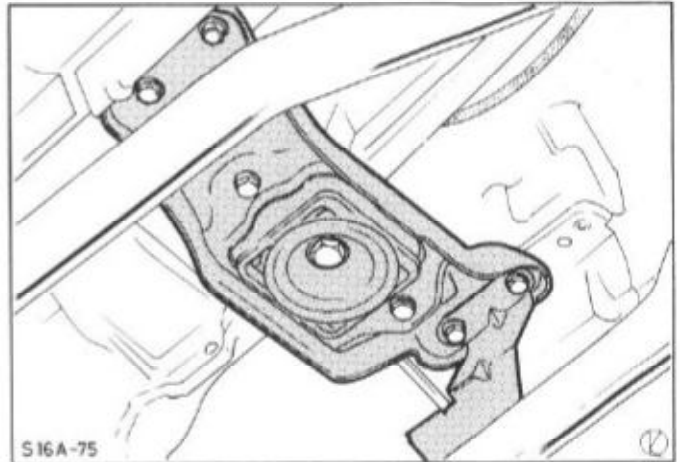

Fig.155. Remove transmission crossmember and heat shield.
2. Detach the transmission crossmember and the heat shield from the floor assembly and the transmission, Fig.155.